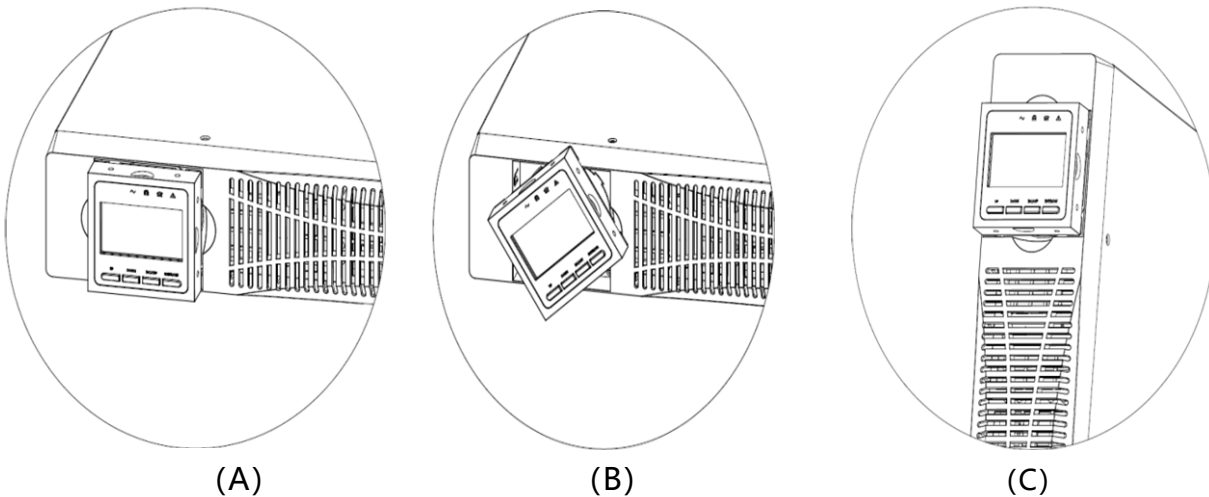

Figure 13 - increase UPS plastic base installation
- a) Install the base, then place the RT UPS on the base one by one as Fig.13 shows.